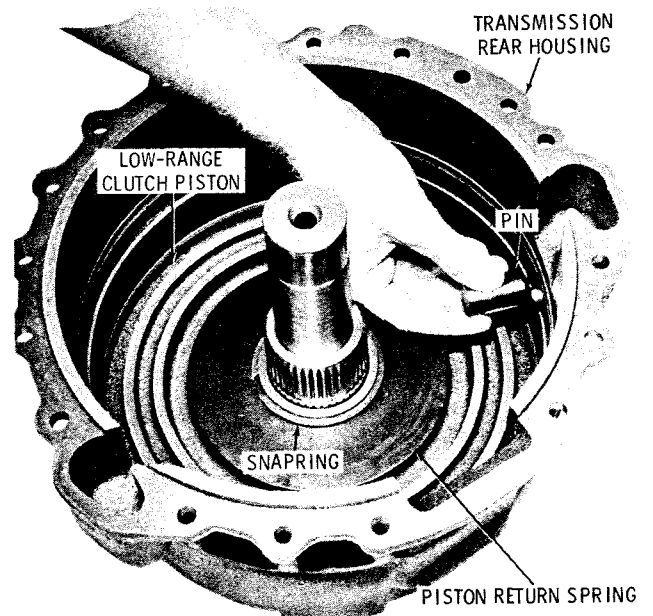

Fig. 5-34. Removing clutch anchor pin
(5) Remove the clutch anchor pin (fig. 5-34). Do not remove the welch plug from the anchor pin hole in the housing.
(6) Depress the inner diameter of the piston return spring, remove the snapring and return spring (fig. 5-34).
(7) Remove the low-range clutch piston assembly (fig. 5-34). Refer to paragraph 6-11 for rebuild of the clutch piston. Leave the output shaft and remaining components in the housing. These will be removed during rebuild of the rear housing assembly; refer to paragraph 6-24 for rebuild of the rear housing assembly.